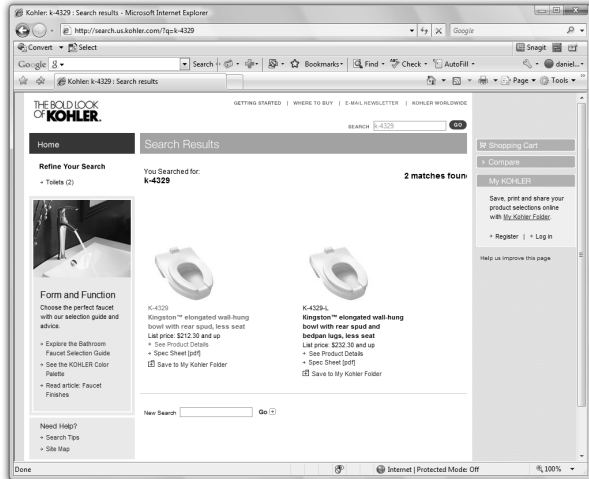

Figure 4-1.2 Website: www.kohler.com; search results
4. Click directly on the toilet image (the one without the bedpan lugs) (Figure 4-1.2).